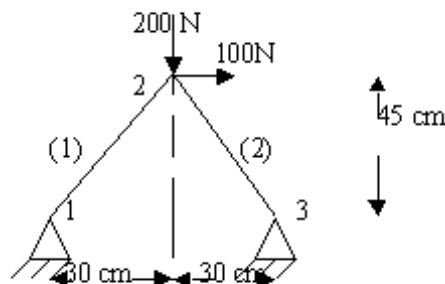

Figure 5
5. Consider the two bar truss structure shown in the figure5. The elements properties are $E_1 = 20 \times 10^{11} \text{ N/m}^2$; $E_2 = 10 \times 10^{11} \text{ N/m}^2$; $A_1 = 100 \text{ mm}^2$; $A_2 = 200 \text{ mm}^2$. Calculate the displacement at node 2 and stresses in the elements 1 and 2. [16]